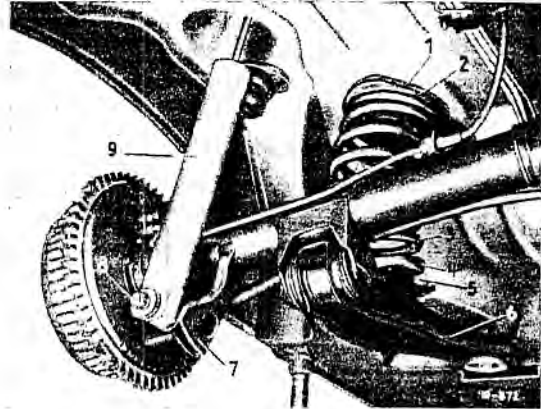

Fig. 35-1/7
- From the trunk compartment unscrew the hexagon screw (1) on the rubber mounting (3) of the rear axle suspension and remove with the lock washer and the upper tension disk (2) (Fig. 35-1/8).